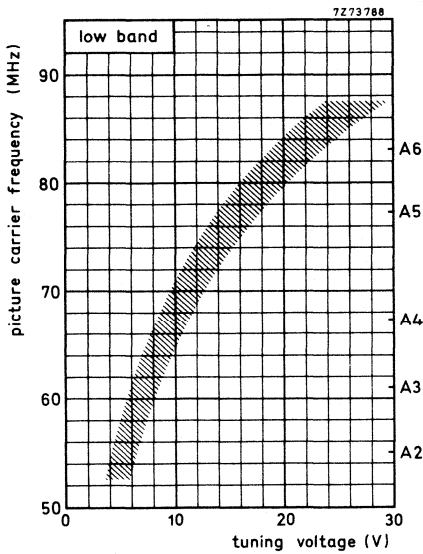

Fig. 7.
**Tuning voltage range (Figs 7 and 8)**